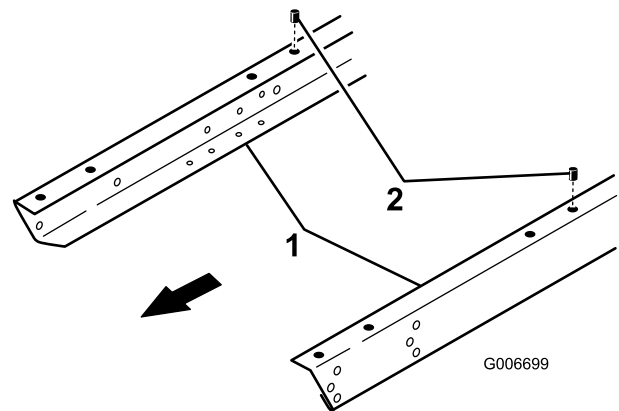

Figure 9
2. Locate and remove the threaded insert from the mounting hole in left and right vehicle frame channels, as shown in Figure 9.